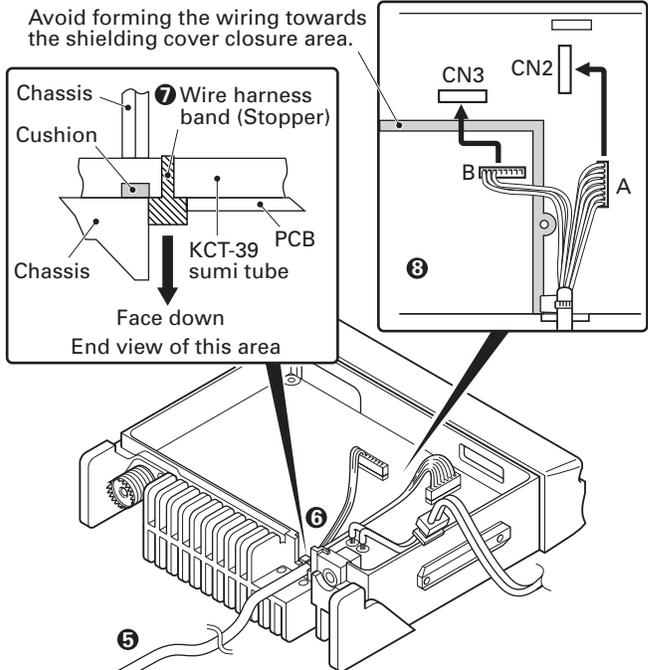

Fig. 5
3. Insert the KCT-39 cable ( ❺ ) into the chassis ( ❻ ). The wire harness band ( ❼ ) must be inside the chassis and face down.
4. Connect the KCT-39 to the TX-RX unit as shown in Figure 5 ( ❸ ).